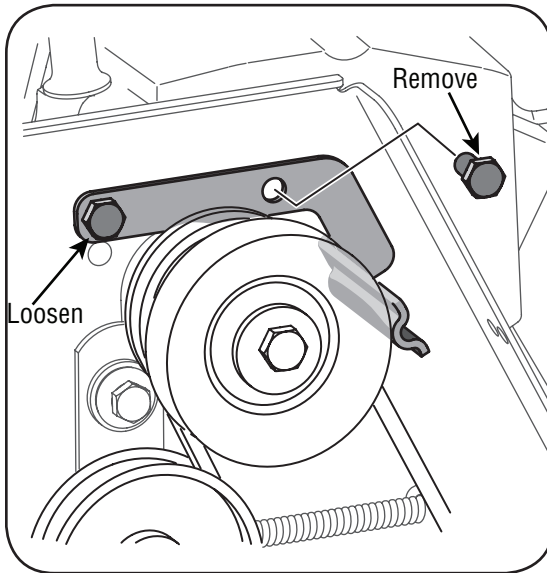

Figure 6-6
- a. Loosen the bolt shown in Figure 6-6 securing the belt keeper bracket and remove the other bolt.